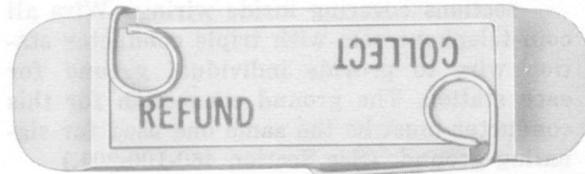

Fig. 19 — 146B Bias Margin Gauge
- (d) 146B Bias Margin Gauge (Fig. 19)
7	Slip 146B bias margin gauge (Fig. 19) over left pole piece extension arm from left side of coin relay (Fig. 21).